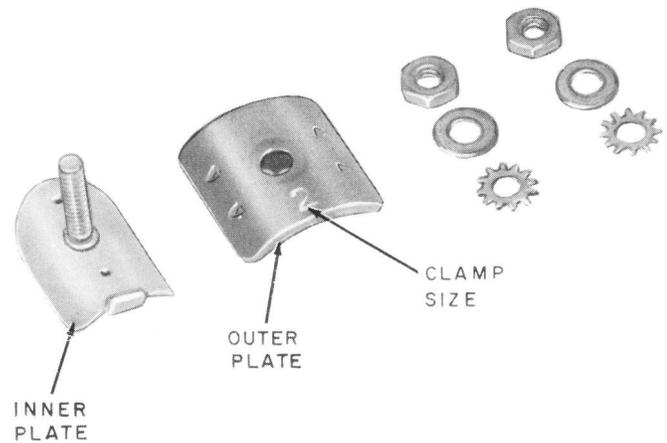

Fig. 1—B Bond Clamp
2.01 The B and D bond clamps are shown in Fig. 1 and 2. The B bond clamp is available in three sizes as listed in Table A. The size designation is stamped on the inner and outer plates. One size D bond clamp is used for all cable sizes.